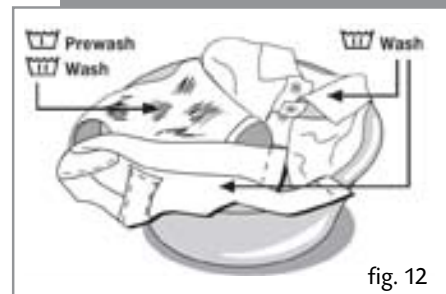

fig. 12
- Sort clothes according to how soiled they are (Figure 12).